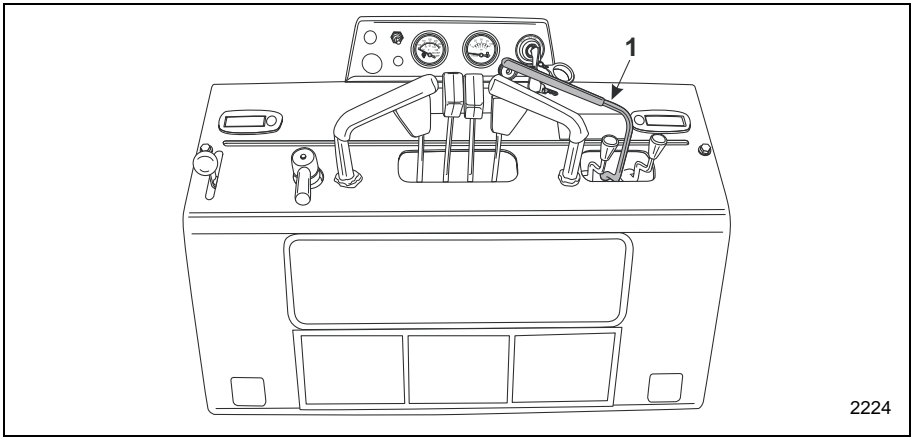

Figure 8 Auxiliary Attachment Controls
3. With your right hand, squeeze the AUXILIARY/OPERATOR PRESENCE control lever (Item 1, Figure 8) towards the hand hold to activate the attachment in the FORWARD motion.
- If you want to reverse the operation of the attachment, move the auxiliary control lever (Item 1, Figure 8) to the REVERSE position. The control lever will remain in the REVERSE position detent until it is moved to the NEUTRAL position.